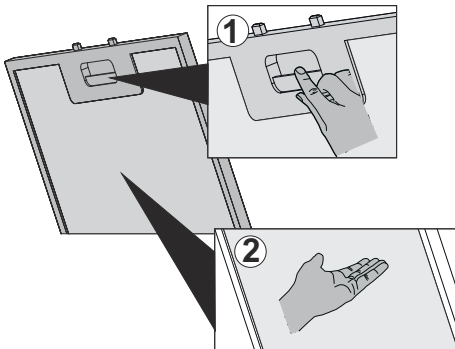

Fig. 8
- Press the aluminum filter tab (1) and pull the aluminum filter to the direction of the arrow (Fig. 8 /1).
- As you remove the aluminum filter, hold it with your other hand to prevent it from dropping (Fig. 8/2).